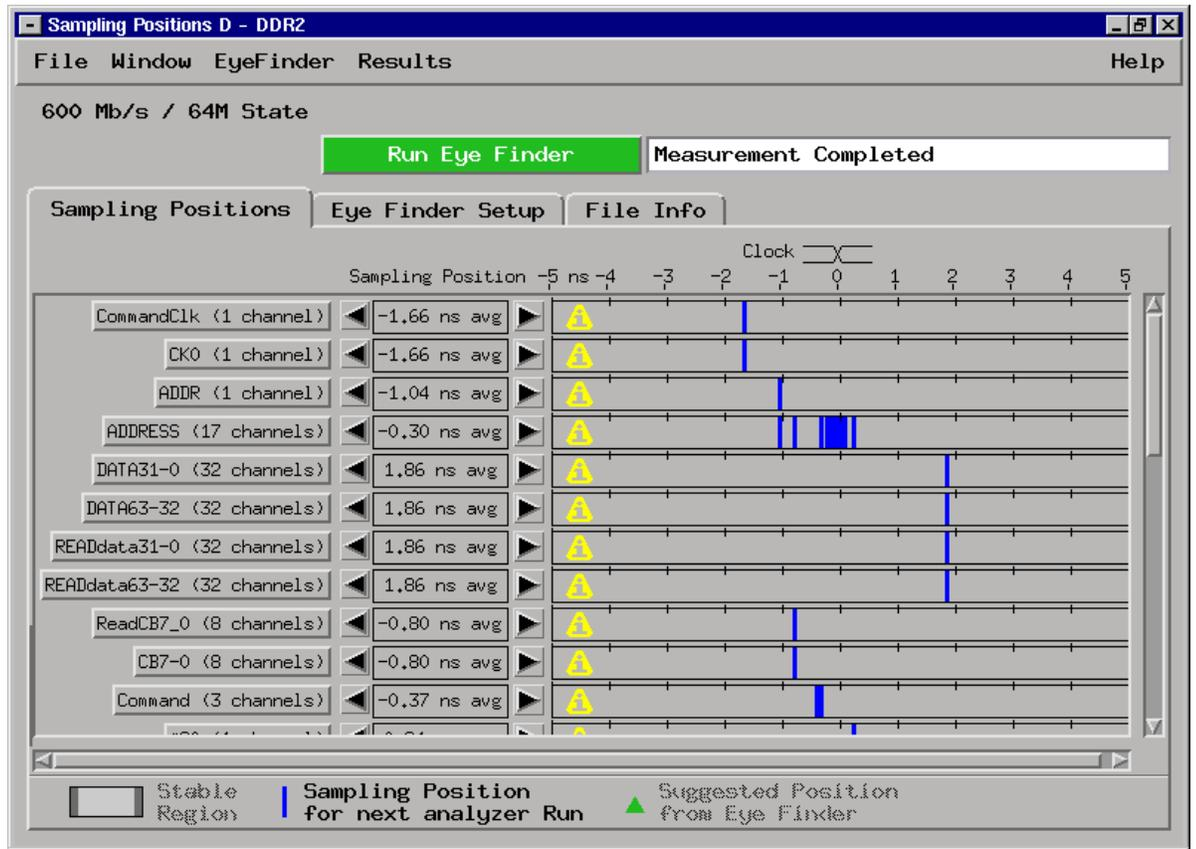

Figure 9 – DATALOW set to +1.86ns
Set the sample position to be equal to the average time you computed in step 6. The easiest way to do this is to point to the blue vertical sample position bar with the mouse and press and hold the left mouse button while dragging the blue bars as far to the left side of the display as possible. This will cause all the blue bars for that label to be set to the same value. Then you can drag the blue sample position bar back to the right to place it in the position you measured in step 6. The sample position is indicated on the scale at the top of the display as well as on the side under the "Sampling Position" column. Figure 9 shows the DATA31_0 (DATA_{Low}) label sample position set to +1.86ns as an example. This means that if you measured a
1.86ns average delay to the center of the data eye for the READdataLow bus after a valid Command Clock edge, you would set the analyzer sample position for READdataLow to +1.86ns (as shown in Figure 9).